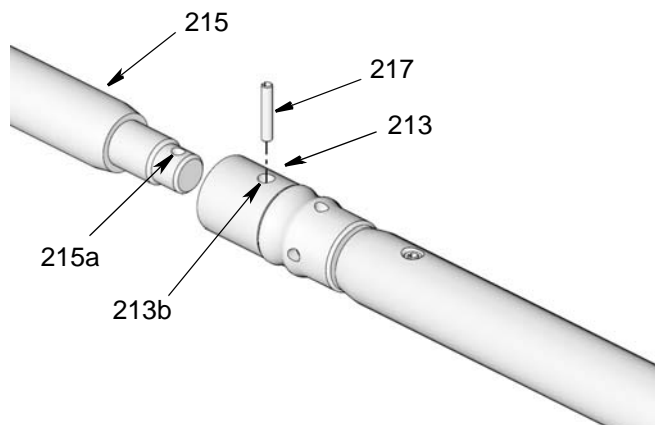

FIG. 40
- Thread priming rod (215) into end of piston rod (213). Hand tighten the two pieces together securely, ending with hole (215a) aligned with hole (213b) (FIG. 40).
- Install pin (217) through the aligned holes [215a and 213b (FIG. 40)]. Support rods (215 and 213) as needed to ensure the rods do not bend. Use a pick and hammer to seat the pin inside the rods.